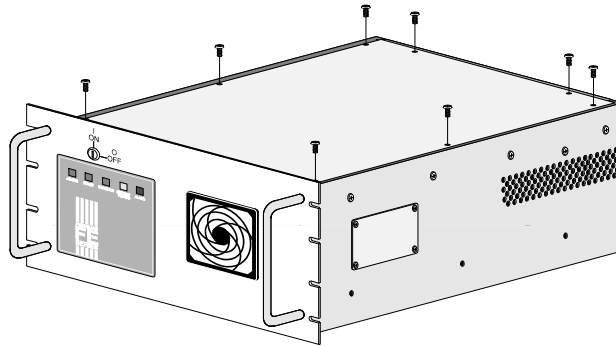

Figure 30. Removing the UPS Top Cover
11. Remove the UPS top cover (see Figure 30).